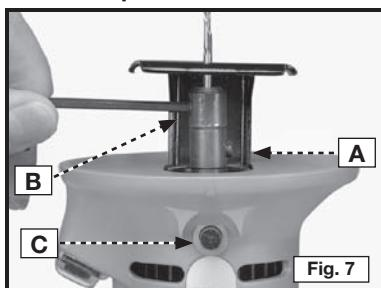

Fig. 7
1. Clean and insert the shank of the special chuck into the spindle until it bottoms (Fig. 7)
NOTE: To minimize vibration levels, insert the special chuck with setscrew (B) Fig. 7 180° from the shaft set screw (A).
- Engage the spindle lock (C) Fig. 7.
- Firmly tighten the screw (A) Fig. 7.
- Firmly tighten the screw (B) Fig. 7.